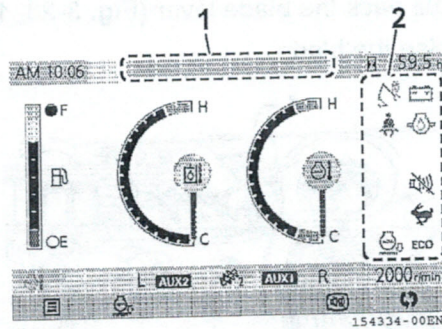

Fig. 3-22
1. Check that no warning is displayed in the warning display area (Fig. 3-22, 1) on the LCD monitor, and that the engine oil pressure icon and battery charge icon are not displayed in the icon display area (Fig. 3-22, 2).